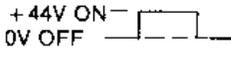

Figure 4-23. Display Logic (Scan Timing) (Ref: Display/Logic Schematic Sheet 1)
the DSP line U11 pin 14 from the I/O microprocessor will be either high or low. A high defines a grid as being turned on and a low defines the grid as being off or a blank. Each BLANK clock shifts the DSP data into the lower order (GRIDS 1-10) grid driver U11. Then the overflow from U11 (DO) is shifted in U8 (DI) which is shifted through U8. U8 contains the upper order grids (GRIDS 11-20). Grid display timing is shown in figure 4-23.